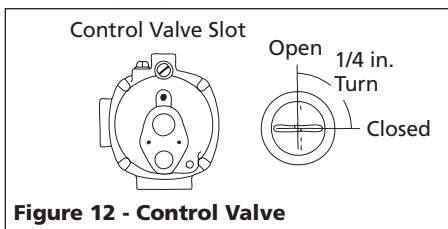

Figure 12 - Control Valve
**NOTE:** When the deep well pump is used with the bolt-on shallow well jet, be sure the control valve slot (Figure 12) is in the vertical (open) position at all times.
4. Close the control valve (Figure 12) and open a nearby faucet.